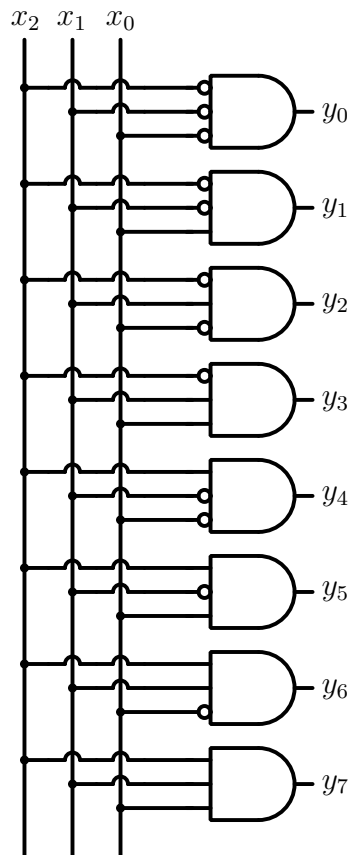

Figure 1: 3-8 Line Decoder.
Line Decoders find widespread use in digital circuits especially in memory decoding or data routing applications. Figure 1 shows a simplified logic schematic of a 3 to 8 line decoder. It has 3 inputs x_0 through x_2 and 8 outputs namely y_0 through y_7 . Inputs determine which output will be set to logic-1 and the remaining outputs will stay at logic-0.
- Using the schematic shown in Figure 1, implement 3-8 line decoder on Basys board. Use sw2 through sw0 as inputs and LED7 through LED0 as outputs.